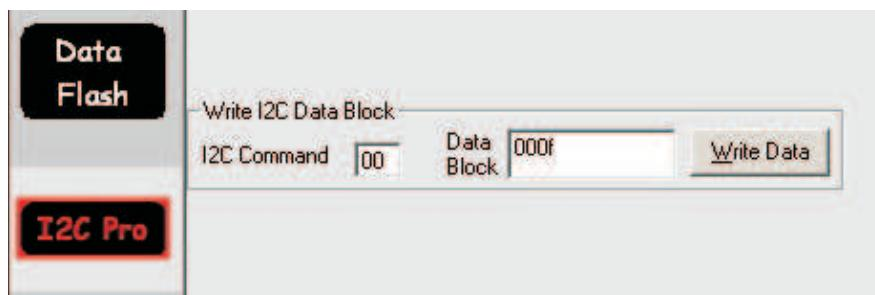

Figure 69. Command to Set the Device in ROM Mode for Firmware Programming
5. Put the device into ROM mode by setting the **Write I2C Data Block** section as: *I2C Command: 00 Data Block (hex): 000f*, and click the **Write Data** button (see Figure 69).